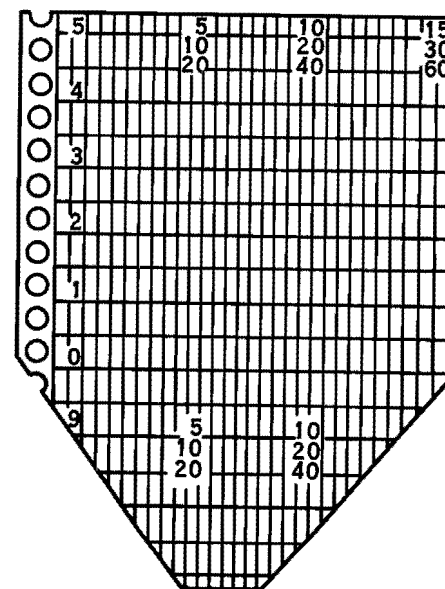

Figure 4-1. Chart Paper Cut to Tapered Point
- h. Pull out about eight inches of paper from the feed-spool. Cut the end to a tapered point (see Figure 4-1).